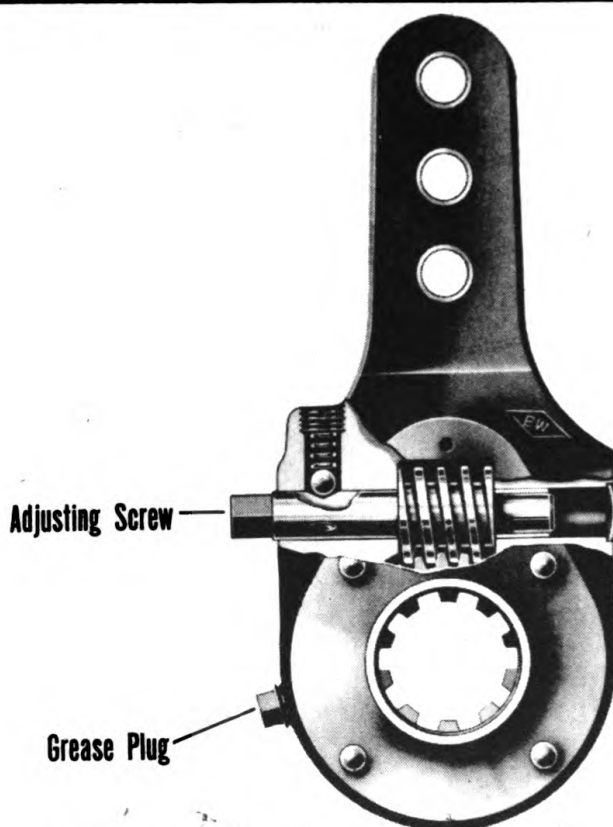

Figure 30—Cross Section of Slack Adjuster.
(1) With brakes fully applied and while holding the diaphragm in place, coat the bolting flanges with soap suds to check for leakage. No leakage is permissible. If leakage is found, tighten the flange bolts. All flange bolts must be tightened evenly and only sufficiently to prevent leakage; otherwise the diaphragm will be distorted and premature failure will result.
(2) With the brakes fully applied, check for leakage through the diaphragm by coating the clearance hole around the push rod and the drain holes in the non-pressure plate with soap suds. No leakage is permissible. If leakage is found, the diaphragm must be replaced.
(3) Excessive push rod travel will cause premature failure of the brake chamber diaphragm. When diaphragms are replaced, brake chamber release springs should also be checked and replaced if necessary. It is important when replacing brake chamber springs to always install the same type of spring as the one removed; otherwise uneven braking will result.
4. Slack Adjuster. (See figure 30.)